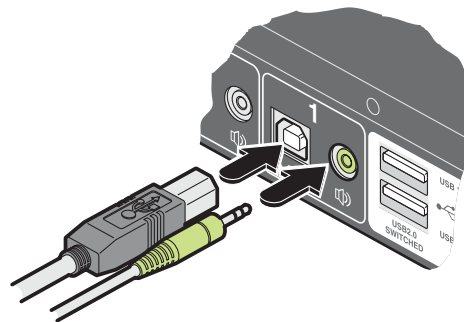

Figure 3-4. Connecting the USB and speaker leads from a computer to the ServSwitch Freedom unit.
2. Use a USB cable (type-A to type-B) to link a USB port on the computer system to the USB port of the required channel on the rear of the unit. See Figure 3-4.
3. If required, use a stereo audio link cable (3.5-mm jacks at either end) to link the speaker port on the computer system to the audio port of the required channel on the rear of the unit. See Figure 3-4.